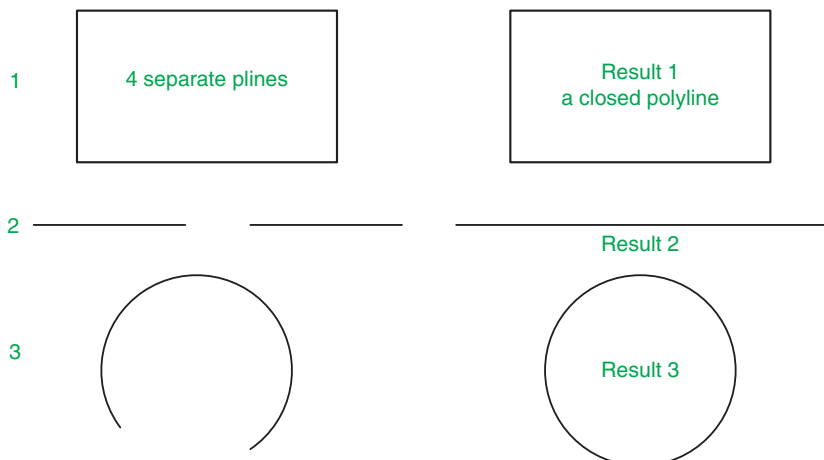

Fig. 5.38 Examples – Join
Examples – Join (Fig. 5.38)
1. Construct a rectangle from four separate plines – drawing **1** of Fig. 5.38. Construct two lines – drawing **2** of Fig. 5.38 and an arc – drawing **3** of Fig. 5.38.
The results are shown in Fig. 5.38